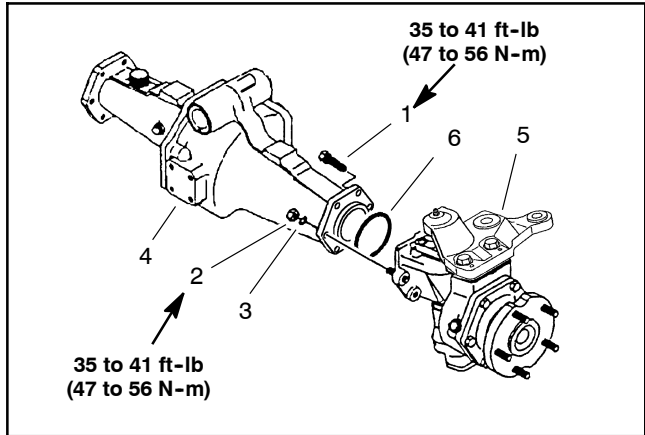

Figure 20
1. Remove the mounting screws, nuts and lock washers. Remove the bevel gear case/axle case assembly and O-ring from the axle support (Fig. 20).